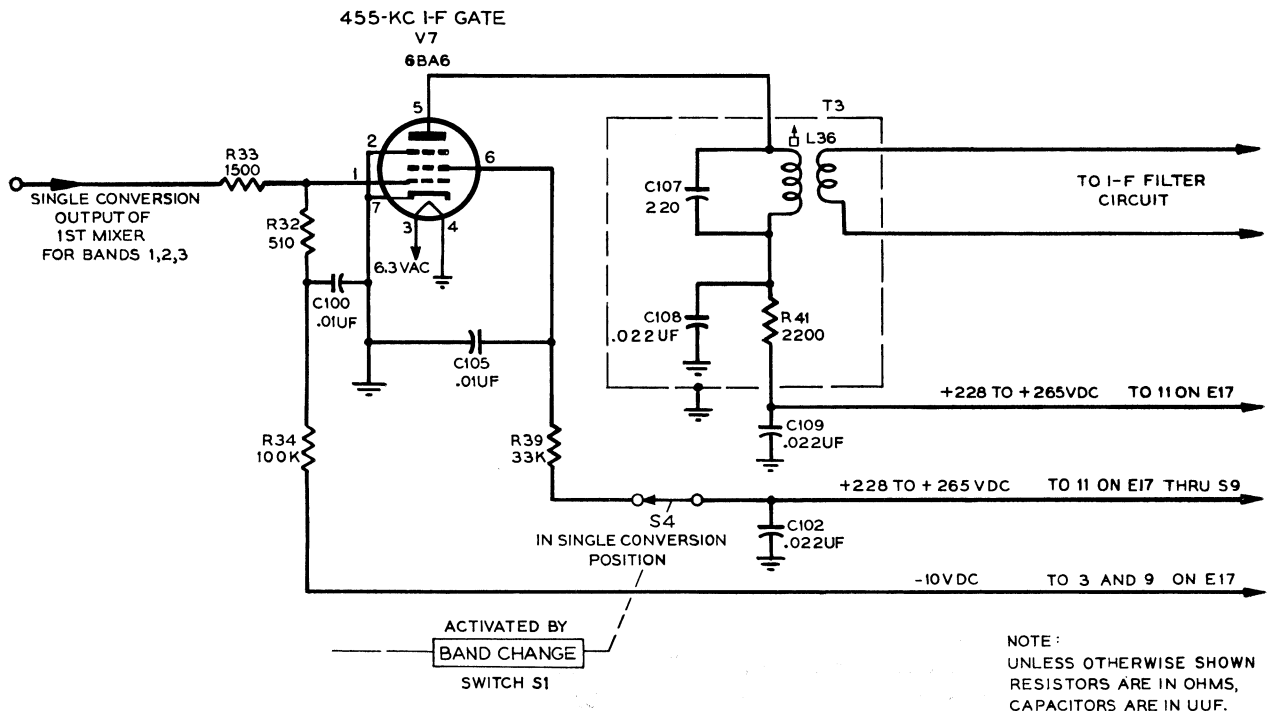
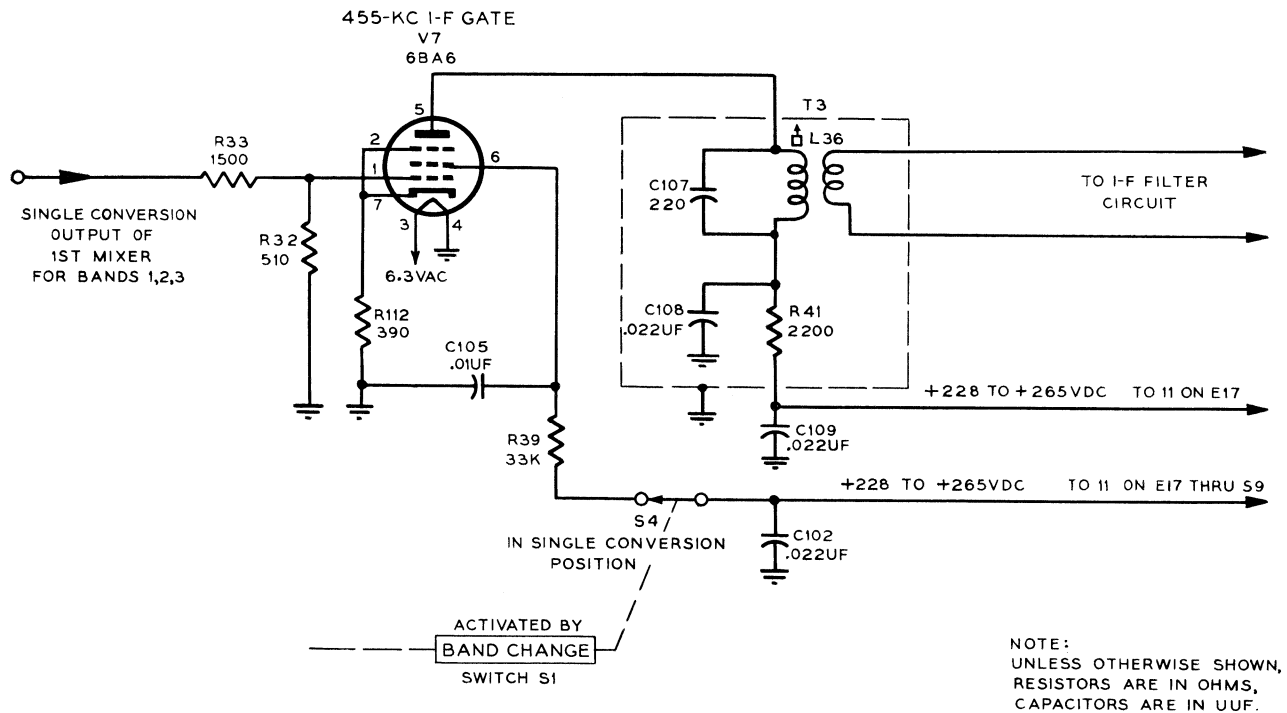
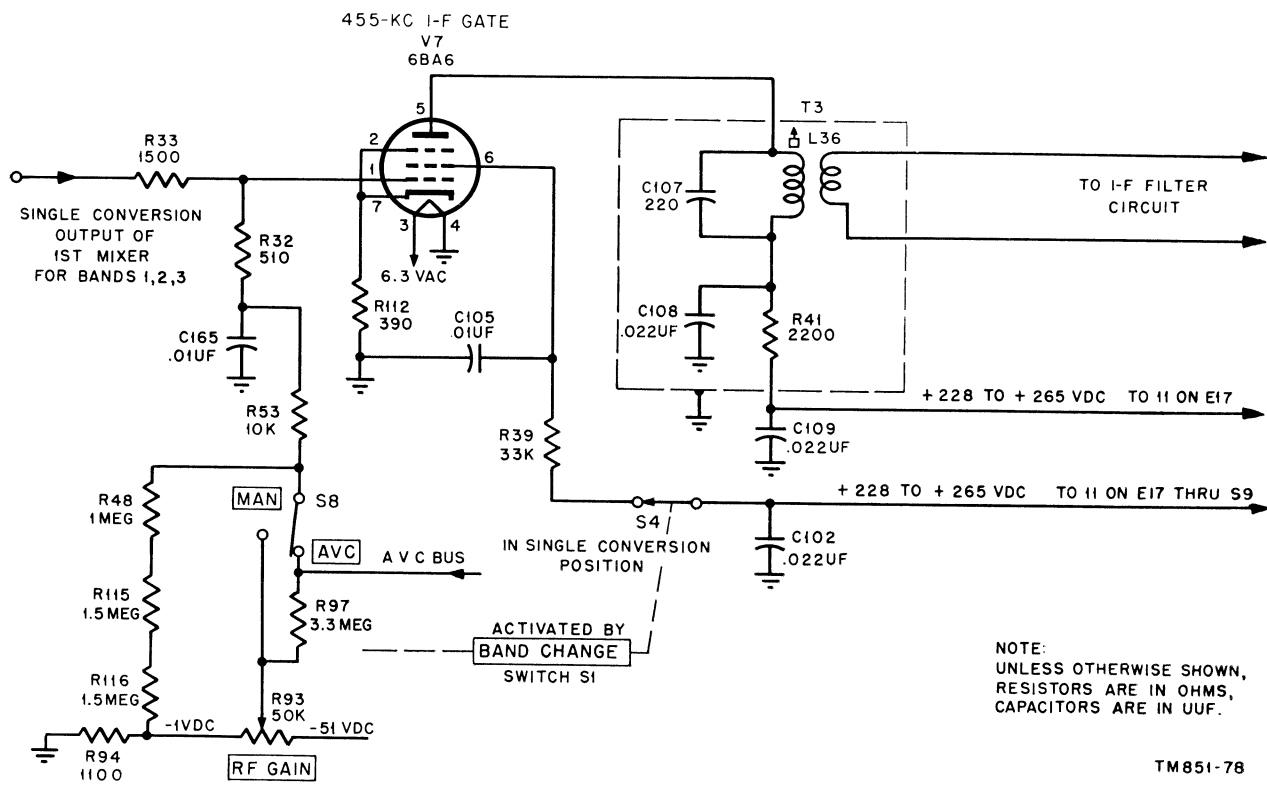

Figure 29. Radio Receivers R-483/FRR, R-320A/FRC, and R-274A/FRR, schematic diagram of the 455-kc i-f gate.
Figure 30. Radio Receivers R-483A/FRR and R-274C/FRR serial No. 1 through 1569, schematic diagram of the 455-kc i-f gate.
Figure 31. Radio Receiver R-274C/FRR from serial No. 1570, schematic diagram of the 455-kc i-f gate.
(figs. 29, 30, and 31)
bypass capacitor C105). Plate voltage is applied (from terminal 11 of E17) through the decoupling circuit (resistor R41 and capacitors C109 and C108) and the primary of i-f transformer L36. In figure 29, negative bias voltage is applied to the control grid (from terminals 3 and 9 of E17) through resistors R34 and R32. In figures 30 and 31, self-bias is provided by resistor R112. In figure 31, negative bias is applied to the grid through AVC-MAN switch S8 and resistors R53 and R32. When S8 is in the MAN position, the bias rectifier negative d-c voltage from the movable arm of the RF GAIN control is fed directly to S8. When S8 is in the AVC position, this is still the case, but resistor R97 is connected between S8 and R93. Also, the ave negative bias developed by the ave rectifier is applied fully to the grid through S8, R53, and R32. Capacitor C165 and resistor R53 act as a filter in the ave line and have some effect on the time constant of the ave circuit. R97 isolates the ave bias to the grid circuit. Resistor R94 provides a negative bias of 1 de-volt to the grid when R93 is set fully clockwise; this is its normal setting when operating ave. When R93 is set elsewhere than at maximum, the actual negative bias effective at the grid is a complex resultant of the ave bias developed and the
bias caused by the setting of R93. The use of resistors R48, R115, and R116 as a voltage divider for the ave bias developed is explained in paragraph 54b. These resistors are shown in figure 31, since they influence the actual negative bias effective at the grid when S8 is at AVC.
c. The 455-ke signal input to the control grid of the 6BA6 tube used in the stage is provided through R33 across grid input resistor R32 from first mixer stage V5. In figure 29, resistor R34 and capacitor C100 isolate the signal to the grid. These are not required in figures 30 and 31. In figure 31, decoupling is provided by R53 and C165. The stage 455-ke signal output, to the i-f filter circuit, is mutually coupled to the secondary of the L36 i-f transformer. The primary of L36, shunted by capacitor C107, is the parallel resonant load impedance of the stage, the adjustable iron core of L36 providing for alinement to 455 ke.